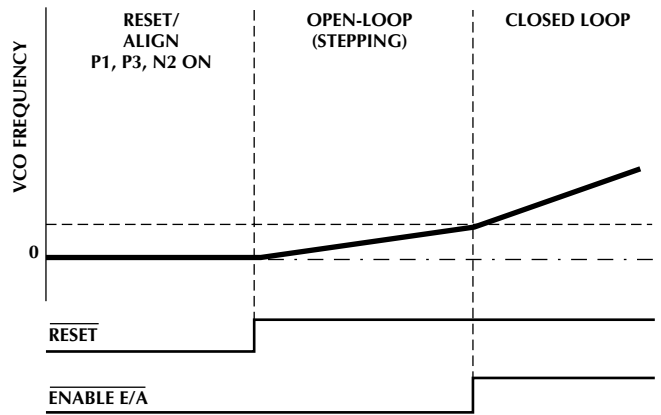

Figure 6. Typical Start-up Sequence.
**Step 1:** The IC is held in reset (state R) with full power applied to the windings (see figure 6). This aligns the rotor to a position which is 30° (electrical) before the center of the first commutation state.